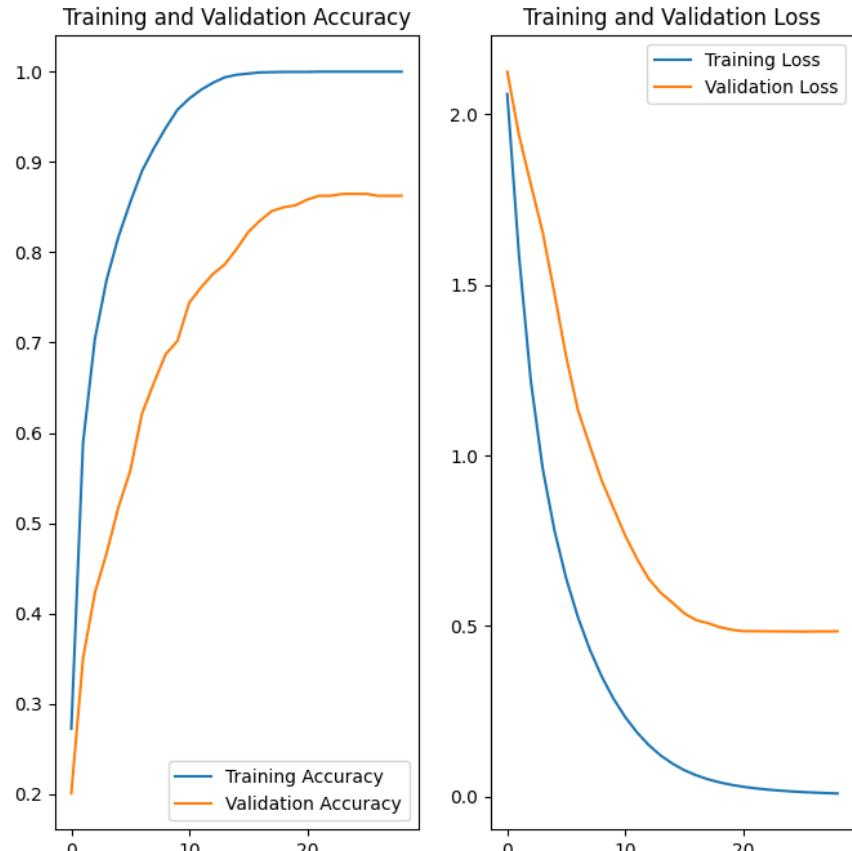

Figure 4: Accuracy and Loss on Training and Validation Data Set
- The accuracy and loss from the validation data set after 26 epochs with 32 batches stays at 86% and 48%, as shown in Figure 4